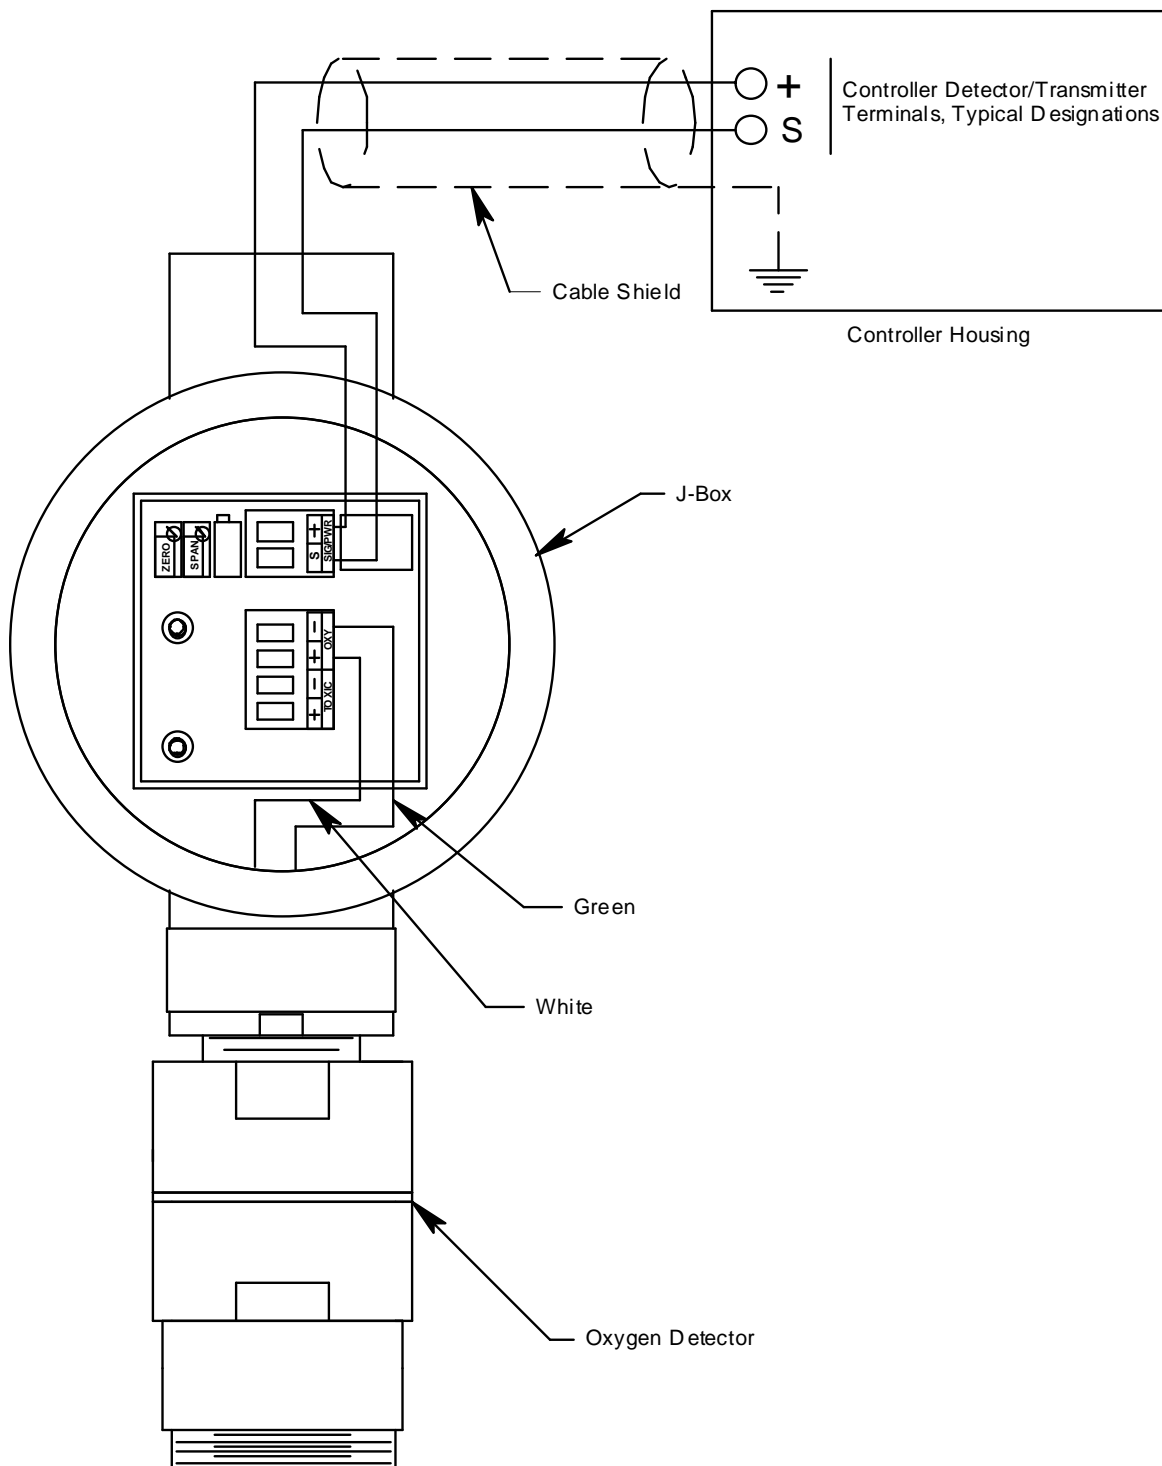

Figure 4: Wiring the Oxygen Transmitter to a Controller
4. The detector leads are factory wired. Verify that the detector leads are wired to the amplifier's detector terminal strip as shown in Figure 4.
7. Pull out the controller terminal strip, and connect the two wires to the terminal strip as follows (see Figure 4).
11. Connect the wires to the applicable detector/transmitter terminal strip at the controller as shown in Figure 4
8. Connect the detector leads to the appropriate detector terminal strip terminals. Connect the white wire to the terminal labelled Oxy + and the green wire to the terminal labelled Oxy -. See Figure 4 on page 10 for the detector wiring connections to the amplifier.